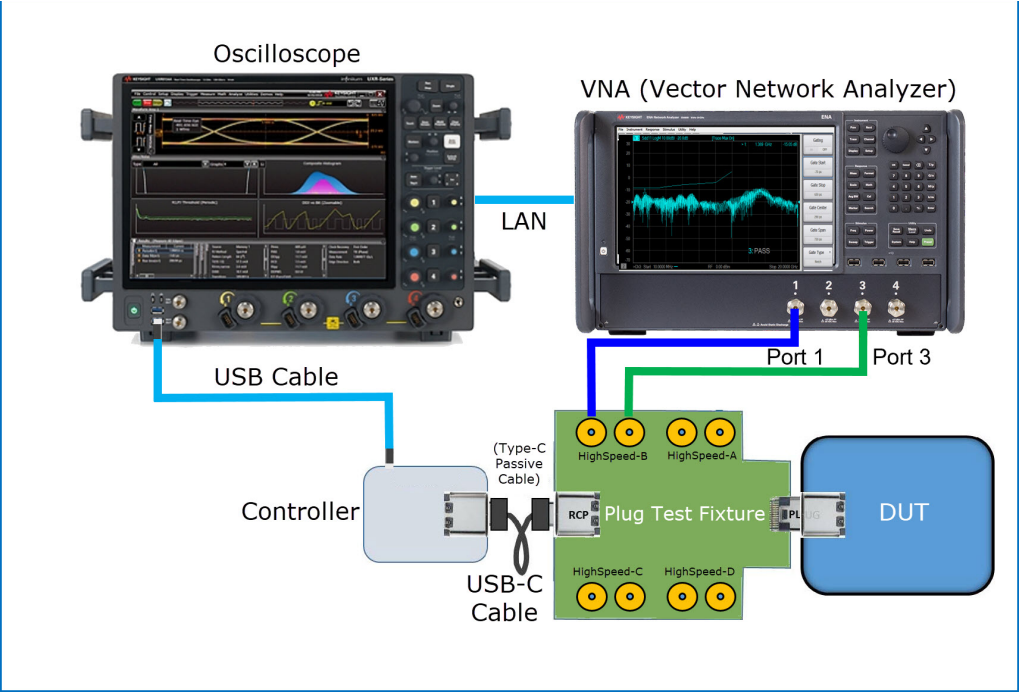

Figure 69 Tx Integrated return loss test setup with Tx SMA test fixture connected to VNA
- 1 For the physical connections between the DUT & the Oscilloscope, see the connection diagrams in Figure 69 and Figure 70.